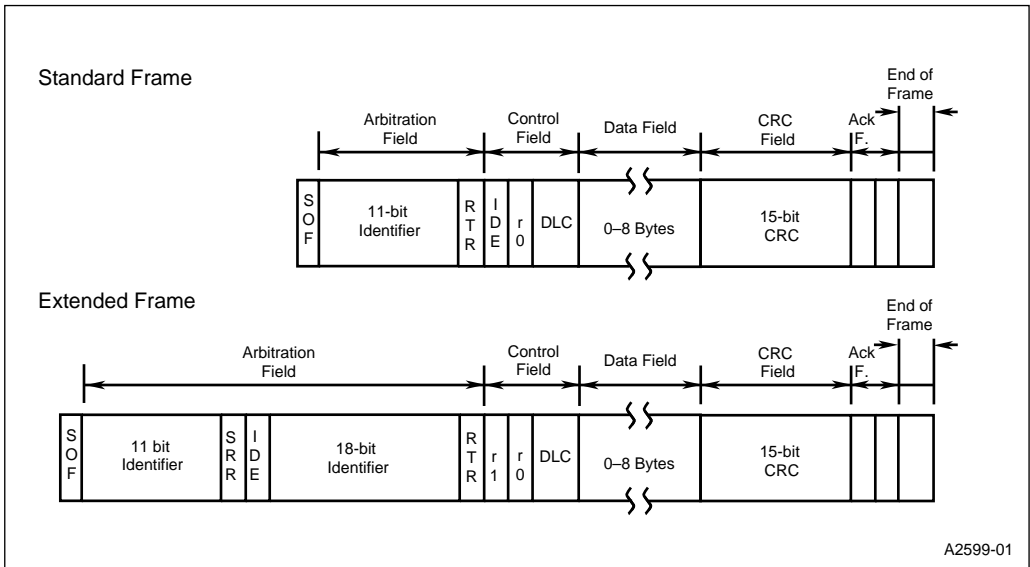

Figure 12-3. CAN Message Frames
Figure 12-3 illustrates standard and extended message frames. Table 12-6 and Table 12-7 describe their contents and summarize the minimum message lengths. Actual message lengths may differ because the CAN controller adds bits during transmission (see “Error Detection and Management Logic” on page 12-9). After each message frame, an intermission field consisting of three recessive (1) bits separates messages. This intermission may be followed by a bus idle time.